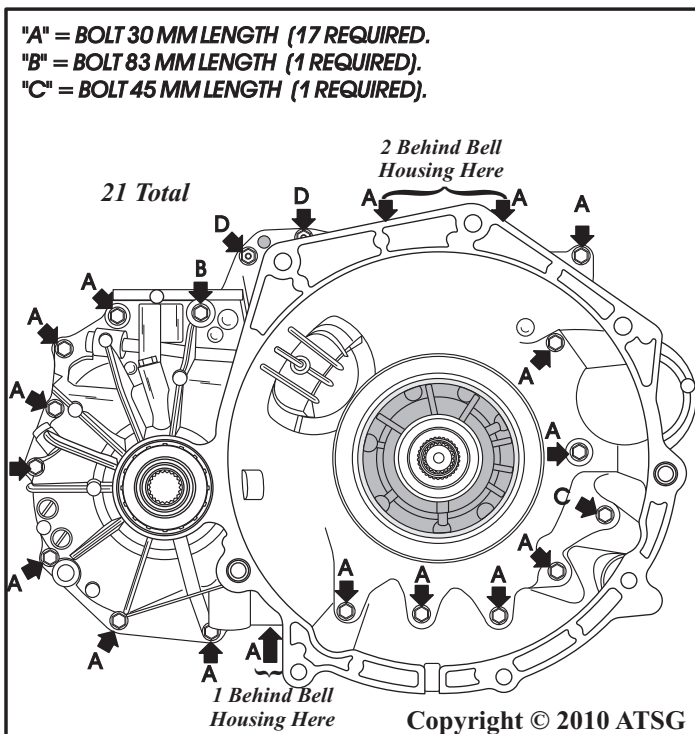

Figure 194
63. Install the converter cover assembly, as shown in Figure 195, using the chart in Figure 194 for the bolt locations.